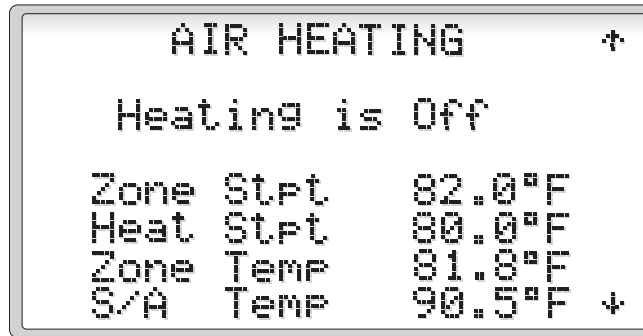

Figure 45
2.3.3.5.2 Tuning – Air Heat (Figure 45)
Pressing the **DOWN** key will now display the AIR HEAT screen (Figure 45). This screen shows the state of the air heat and the associated setpoints and temperatures. The Zone setpoint is settable from this screen. Press the **DOWN** key for the next Tuning screen.